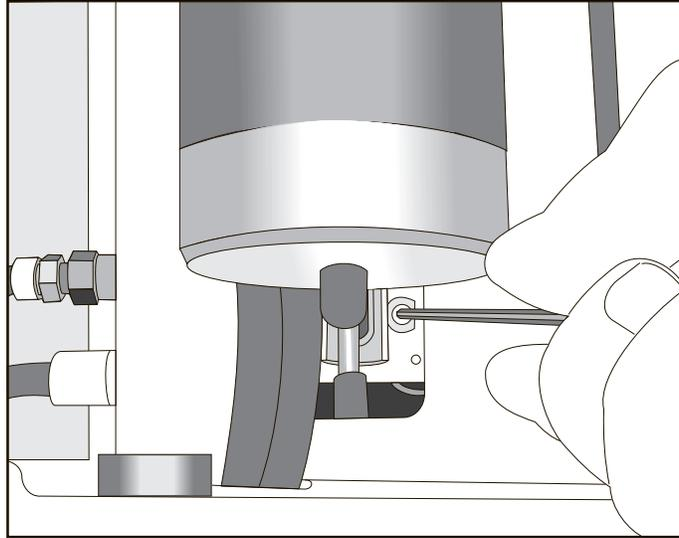
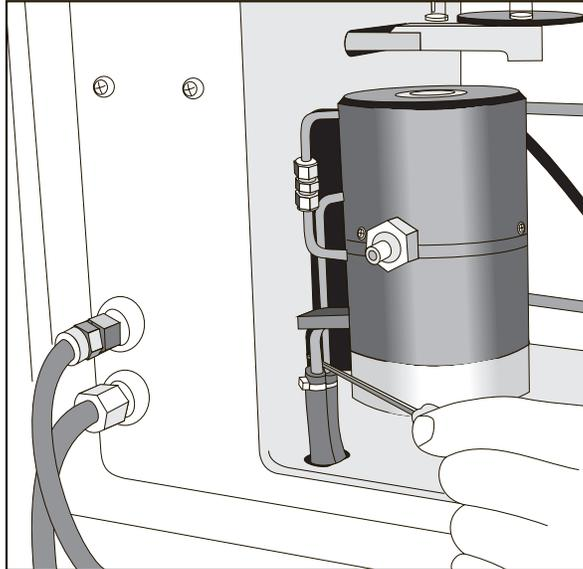

Figure D.6
Figure D.7
11. Plug the EGA furnace arm into the connector on the carriage and tighten the lower two mounting screws using the 3/32-inch ball driver supplied with the TGA 2950 EGA. See Figure D.6 on the next page.
12. Press the FURNACE key to completely lower the furnace. Use the 3/32-inch ball driver to tighten the upper furnace mounting screws. To reach the upper left mounting screw, insert the ball driver between the water connections on the left side of the furnace housing as shown in Figure D.7.
2. Locate the top two mounting screws on each side of the furnace arm connection, found in the slot on the front of the instrument. Using the 3/32-inch ball driver supplied with the EGA furnace, loosen the two screws no more than one full turn. To reach the upper left mounting screw, insert the ball driver between the water connections on the left side of the furnace housing. Refer to Figure D.7 for the location of these screws.
3. Press the FURNACE key to raise the furnace about one (1) inch and press STOP.
4. Loosen the bottom two mounting screws using the 3/32-inch ball driver supplied with the TGA 2950 EGA. See Figure D.6.
5. Plug the EGA furnace arm into the connector on the carriage and tighten the lower two mounting screws using the 3/32-inch ball driver supplied with the EGA. See Figure D.6 on page D-12.
6. Press the FURNACE key to completely lower the furnace. Use the 3/32-inch ball driver to tighten the upper furnace mounting screws. To reach the upper left mounting screw, insert the ball driver between the water connections on the left side of the furnace housing as shown in Figure D.7 on page D-13.